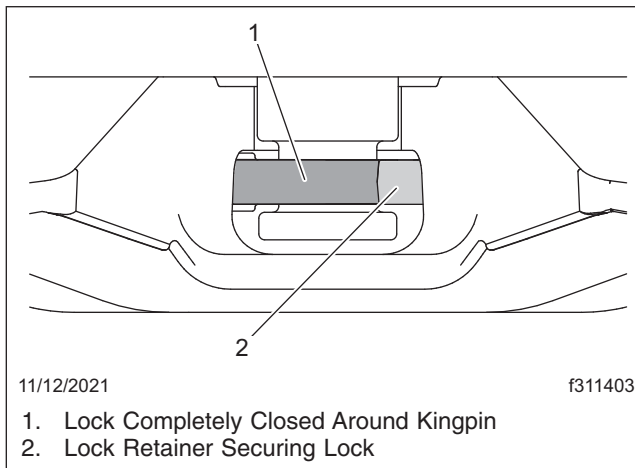

Fig. 17.15, Holland FW17 or FWAL Lock Closed Around Kingpin
- Verify that the kingpin is securely locked as shown in Fig. 17.15.